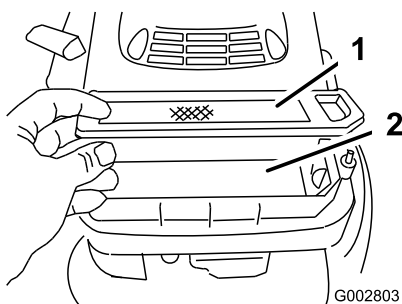

Figure 23
5. Remove the paper air filter and discard it (Figure 23).